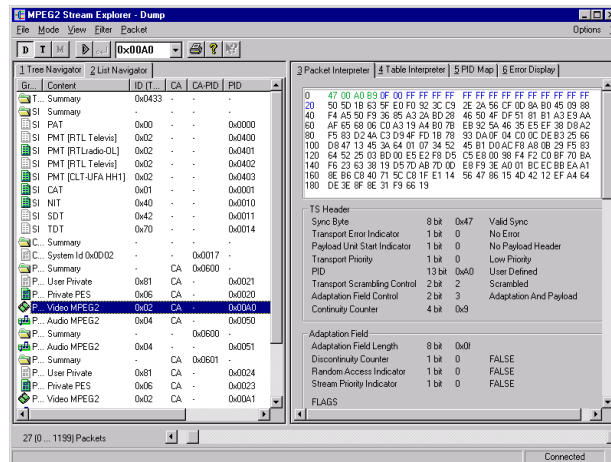
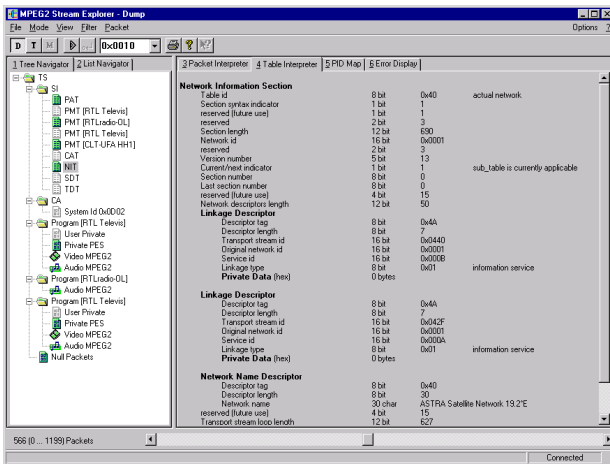

Fig. 1: All transport stream details under control with List Navigator and Packet Interpreter
Fig. 2: Clear representation of transport stream structure with Tree Navigator and of individual tables with Table Interpreter
- **TS NAVIGATOR:** Display of transport stream contents as a tree structure (Fig. 2, left) or in tabular form (Fig. 1, left) with general information about elementary streams such as PID, stream ID, data rate and information about scrambling. This display mode is always available together with a second display mode.
- **PACKET INTERPRETER:** (Fig. 1, right) Display of a TS packet in hexadecimal format and at the same time as an interpreted list of all elements contained in the transport stream. A colour code for the various parts of the packet (header, adaptation field, payload, etc) makes for a clear representation. The packets are selected either via the TS NAVIGATOR or via a software slide switch allowing all buffered packets to be addressed in their original sequence.
- **TABLE INTERPRETER:** (Fig. 2, right) Lists all elements of a selected table and interprets the contents. The following tables can be selected: PAT, PMT, CAT, NIT, BAT, SDT, EIT, RST, TDT, TOT, ST, SIT, DIT.